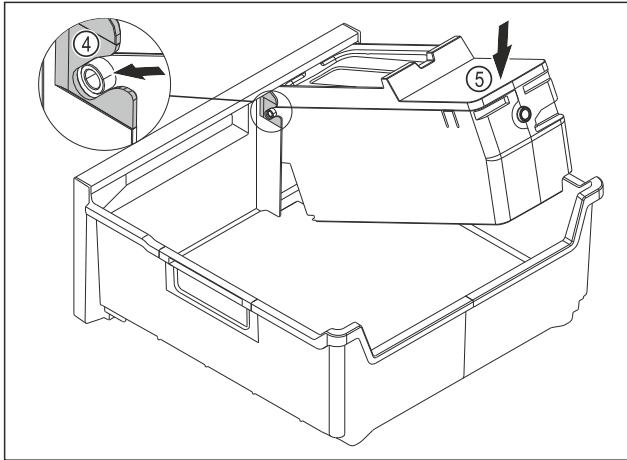

Fig. 162
- Installing the EasyTwist-Ice body: Push the axes for the EasyTwist-Ice body into the guides Fig. 162 (4).
- Press the EasyTwist-Ice body Fig. 162 (5) down at the back.